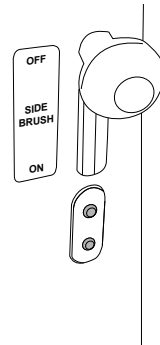

fig. 27
- Loosen the two adjustment screws underneath the brush levers (fig. 27).